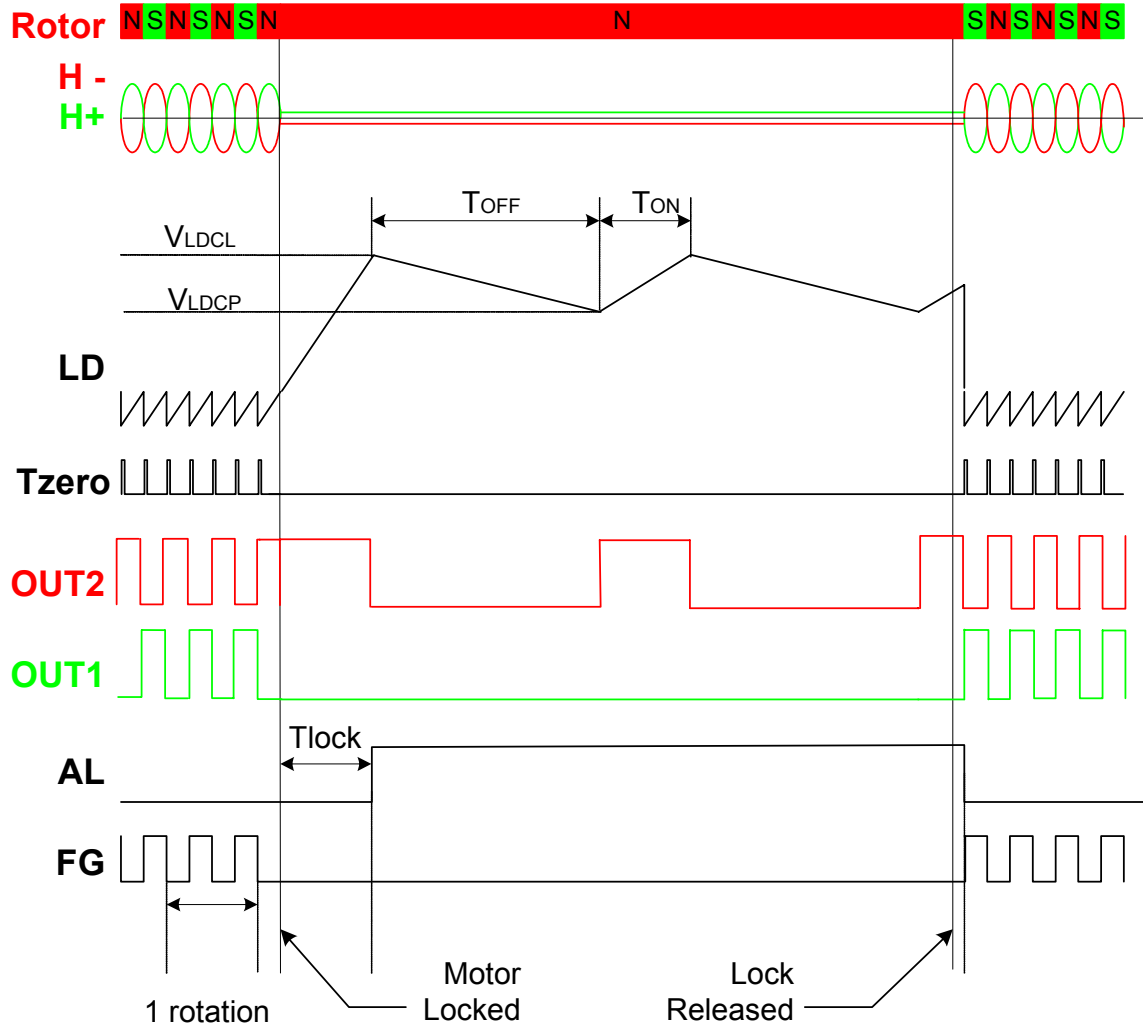

Figure 1. Overall Timing Chart
When the rotor is locked, there is no change in input signal of hall amplifier and thus a internal TZERO pulse is not observed. A capacitor(C_{LD}) connected LD pin is continually charged by internal current source(I_{LDC}) to internal threshold (V_{LDCL}) resulting from no Tzero pulse. When the voltage, V_{CLD} on LD pin, reaches V_{LDCL} , high side output power TR is turned-off to protect motor during TOFF and the alarm output (AL) becomes floating high. When the V_{CLD} reaches upper threshold, V_{LDCL} , V_{CLD} starts to decrease with internal current sink(I_{LDD}) to the low threshold, V_{LDCL} . At that time, the V_{CLD} ramps up again and one of two outputs is turned on depending on locked rotor position during TON. The charging and discharging repeat until locked condition is removed, or FAN8461G is powered down. The overall time chart is shown in figure.1. The auto- retry time(T_{ON}), the motor protection time(T_{OFF}), the locked rotor detection time(T_{LOCK}) are proportional to external capacitor, C_{LD} and each value can be calculated as follows;